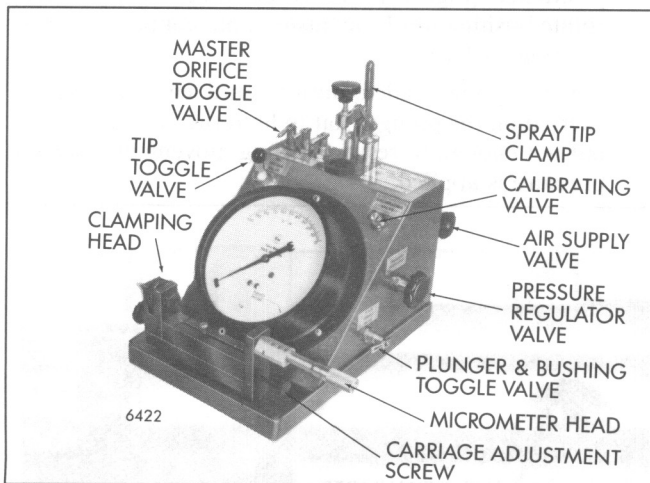

Fig. 12 – Plunger/Bushing and Tip Flow Gage
Place the flow gage unit in a clean well lighted area that has an air supply of 40 psi (276 kPa), but not more than 150 psi (1034 kPa). Turn off the air supply valve (on the rear of the flow gage) and connect your air line. Familiarize yourself with the various components on the unit (Fig. 12).
1. Set all toggle valves in the *closed* position (Fig. 12).